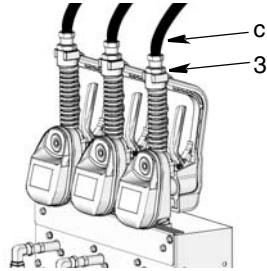

FIG. 17
2. Disconnect fluid distribution lines (c) from fitting (3) (see FIG. 17).